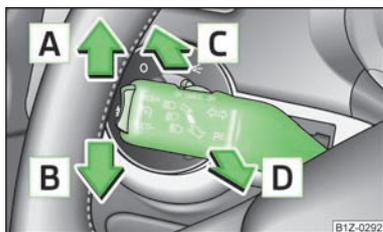

Fig. 28
- Push the lever upwards  » Fig. 28 or downwards .